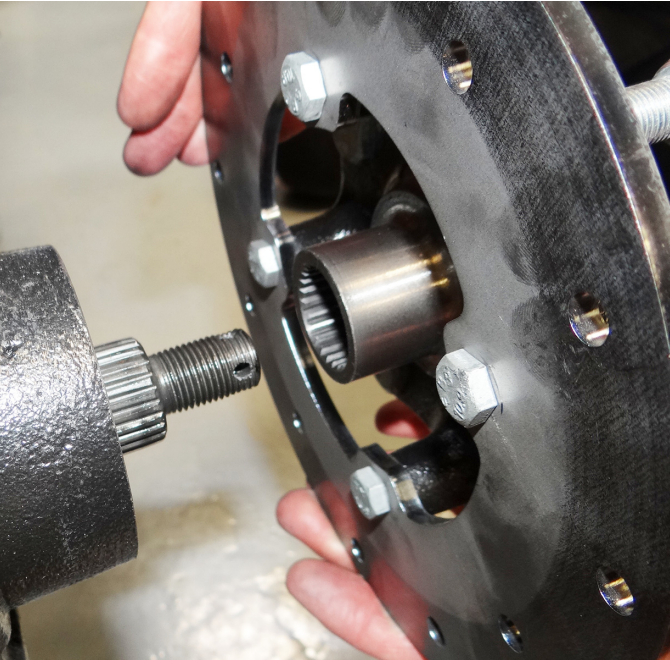

Fig. 4 Remove Hub
- 5. Tap the hub with a plastic hammer while applying outward pressure until the hub slides off the splines of the axle (Ref. Fig. 4).